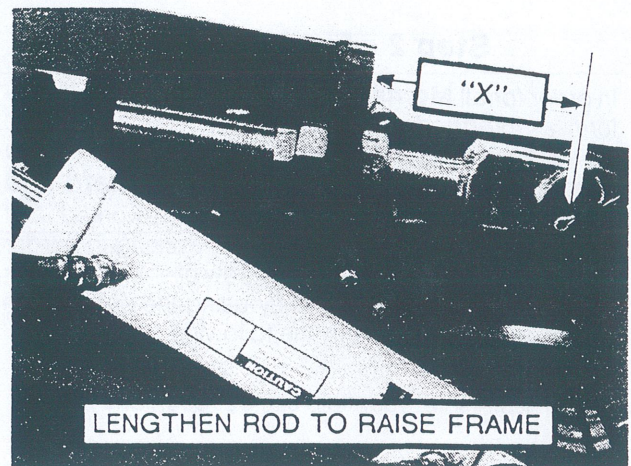

Figure 6
- **Single Axle** Dimension "X" is 8". See Figure 6.
- **Inner Wing** Dimension "X" is 6 3/8". See Figure 6.
- **Outer Wing** Dimension "X" is 7". See Figure 6.